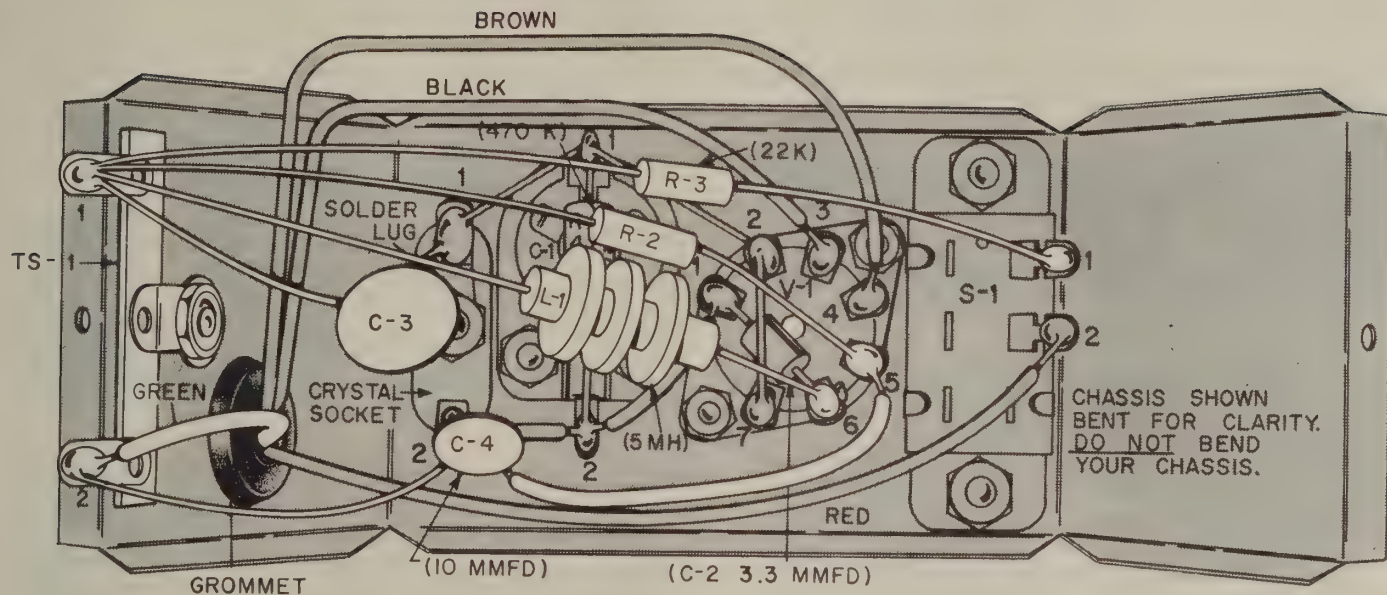

FIGURE 4. FINAL WIRING VIEW
SEE FIGURE 4.
- ☒ Mount the terminal strip, TS-1, as shown in Figure 4. Use a $\frac{1}{4}$ " screw, a lockwasher, and a matching nut to fasten TS-1, with a lockwasher between the mounting leg and the chassis.